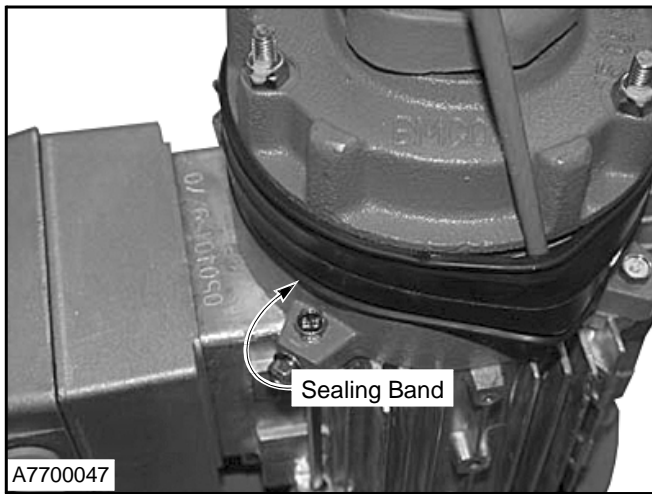

Figure 40
3. Remove sealing band. (See Figure 40)